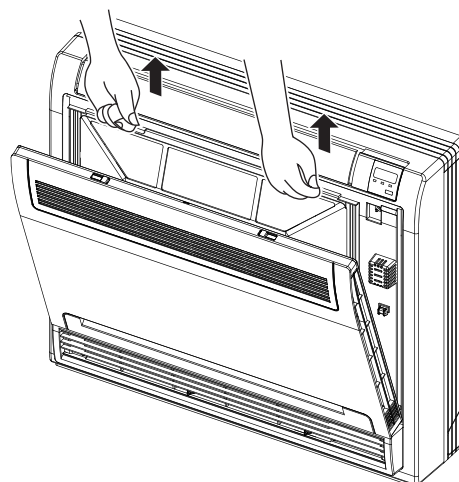

Fig.2
- 2 Lightly press the claws on left and right sides of the filter, then take out the filter by pulling it upwards (Fig. 2).